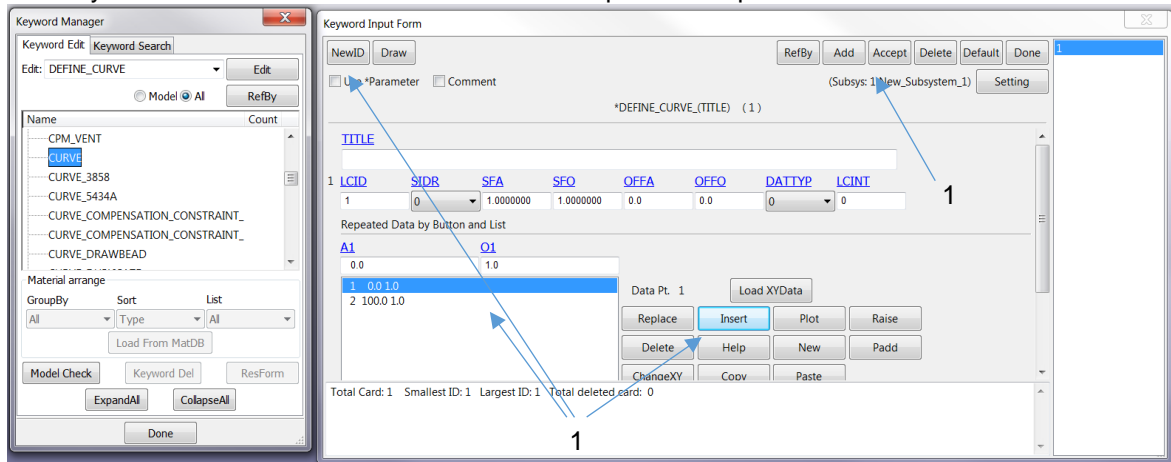

Figure 8 How to define a load curve.
2. To define the boundary condition for the Inlet, double click on *ICFD_BOUNDARY_PRESCRIBED_VEL, see figure 8. Select part 1 which is the inlet, then set DOF to one since the normal is in the x-direction. Keep VAD at one and then click on the black dot next to LCID to choose load curve (LCID) 1 that has a constant value of one. Then set the scale factor SF to 40 which means that the load curve that is used will be scaled with this value so after the ramp the velocity will be 40 m/s.